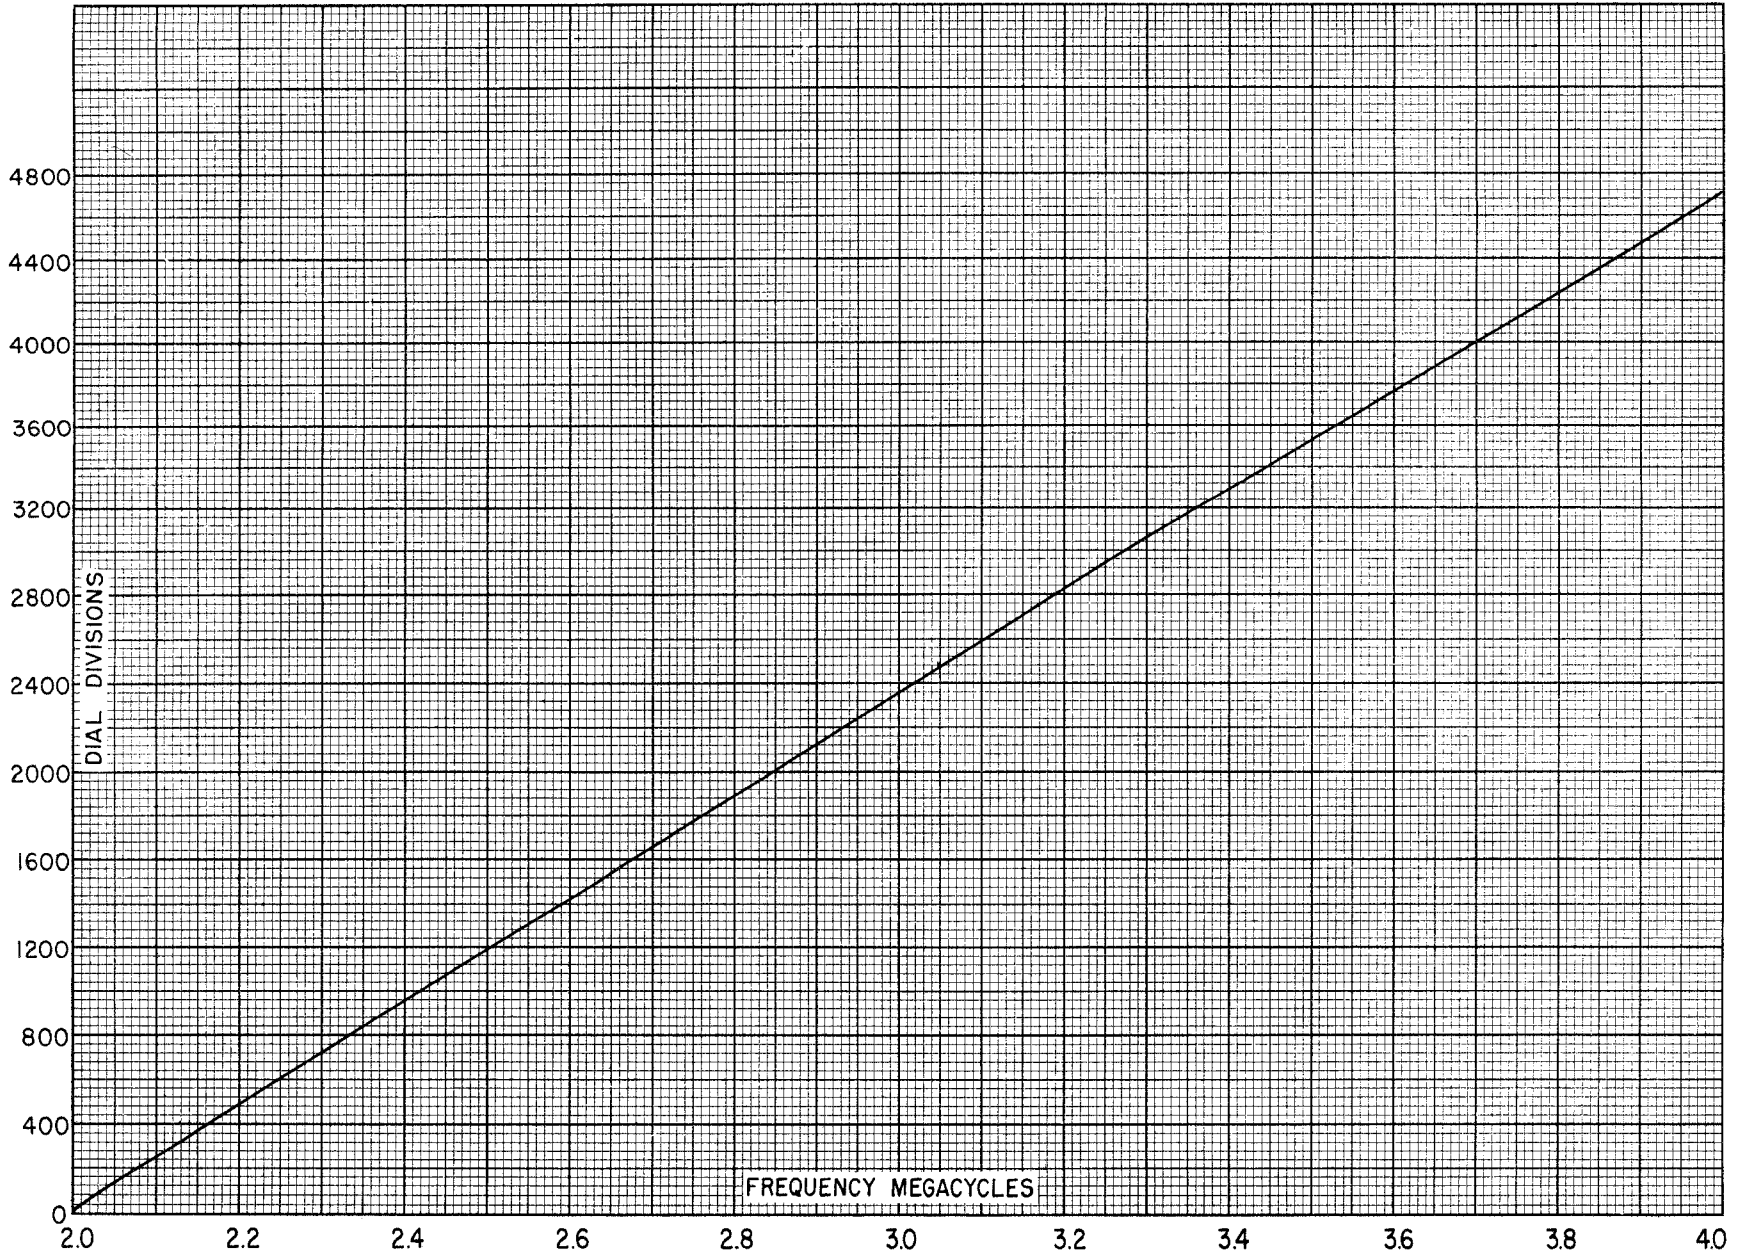

Figure 4-3. Overall Calibration Curve
- (2) Turn HFO ON-OFF switch to ON.
- (3) Turn HFO switch to MO.
- (4) Turn FREQUENCY RANGE MC switch to band containing desired frequency.
- (5) Turn OUTPUT FREQUENCY dial to its approximate setting according to Table 4-2.
- (6) Turn METER SELECTOR switch to HF OUT position.
- (7) The dial setting of RF Oscillator O-165/UR may be obtained from the calibration curves shown in figures 4-3 through 4-23 by dividing the desired output frequency by 8 if it is between 16 and 32 Mc, dividing by 4 if it is between 8 and 16 Mc, dividing by 2 if it is between 4 and 8 Mc, and using directly if it is between 2 and 4 Mc.
- (8) Turn to the calibration curve corresponding to the desired frequency of operation, as determined from step (8) above.
(9) Read the number of "Divisions Added to Lower Calibration Point" corresponding to the desired operating frequency.
(10) Note the approximate check point corresponding to Curve A, or Curve B, which is printed at the upper left hand corner of the curve sheet.
(11) Turn on CAL. OUTPUT switch and insert a pair of headphones into the CAL. OUTPUT jack. Adjust the oscillator dial to the approximate check point.